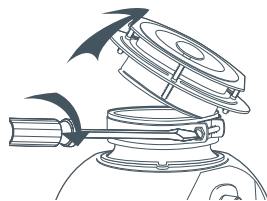

Fig. 2 Removing the mounting system from the waste disposer
- 1 Loosen the clamp screw to allow the mounting system to be removed from the unit (fig.2).